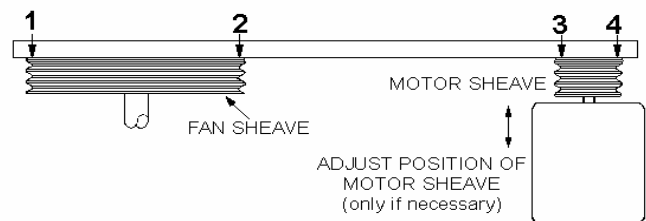

Figure 18 - Sheave Alignment Check (Top View)
8. As a final check, lay a straight edge from sheave to sheave as shown in Figure 18. There should be 4-point contact. Adjust the position of the motor sheave if necessary.